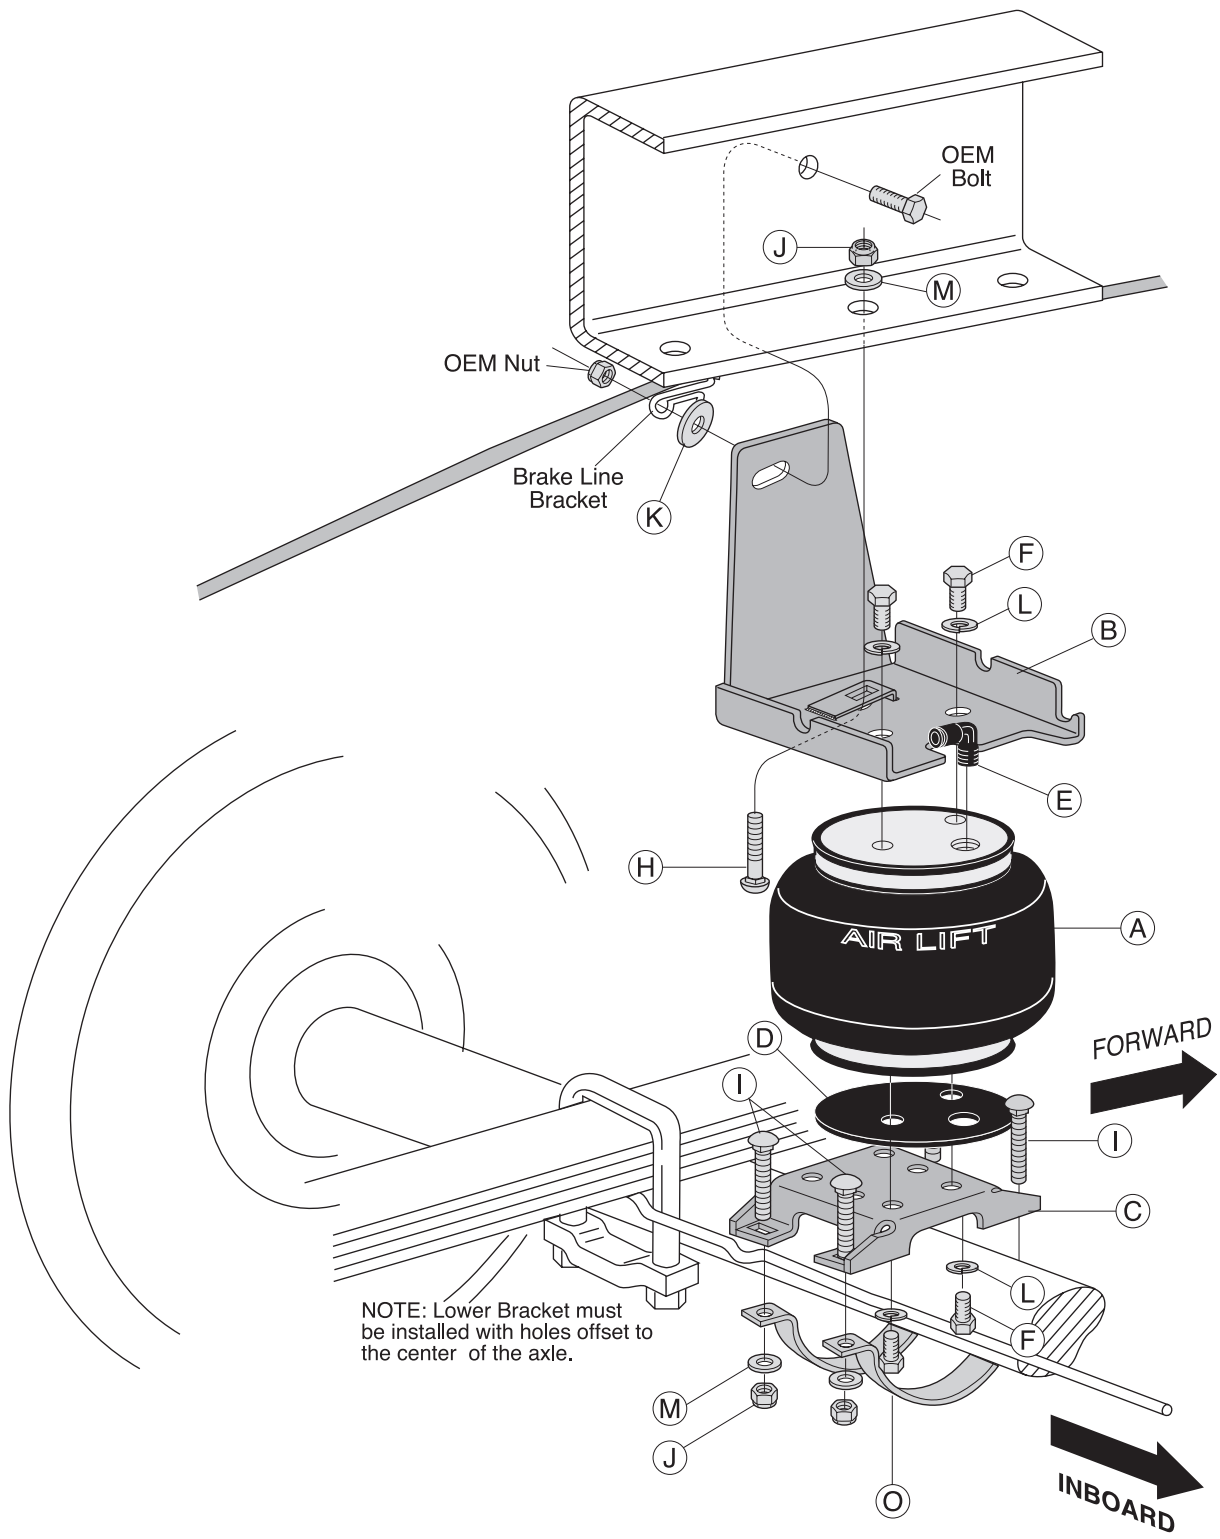

fig. 1
1. Install 90 degree air swivel fitting (E) to the top of the bellow. This fitting is precoated with sealant. Using an open-end wrench, tighten 1 1/2 turns (Figs. 1 and 3).
3. Set bracket and carriage bolt assembly on top of the bellow. Attach with two bolts (F) and lock washers (L).
4. Set backer plate (D) on the bottom of the bellow (Fig. 1).
1. Set the assembly in place by inserting the carriage bolt up through the jounce bumper hole (Fig. 1). The bracket fits flush against the outside of the frame.
2. Attach the axle straps (O) to the lower bracket using washers (M) and nylock nuts (J). Refer to Figure 1.